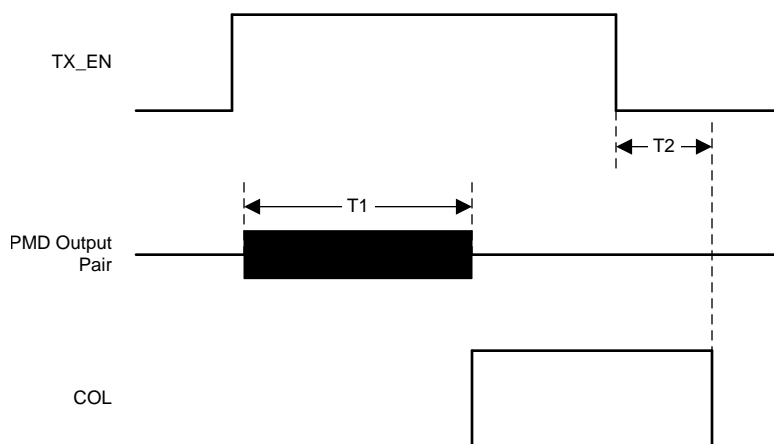

Figure 14. 10BASE-Te Jabber Timing
- (1) Ensured by production test, characterization or design.
(2) See Figure 14.